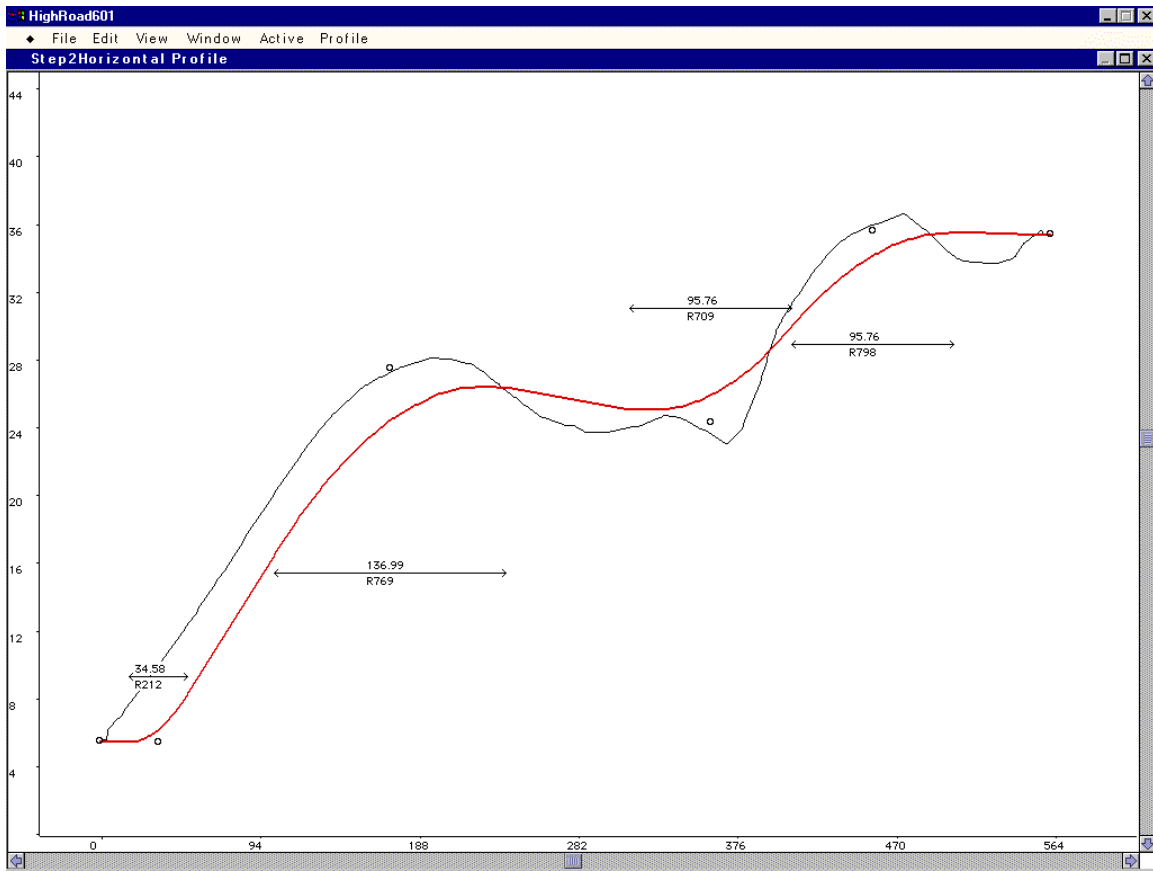
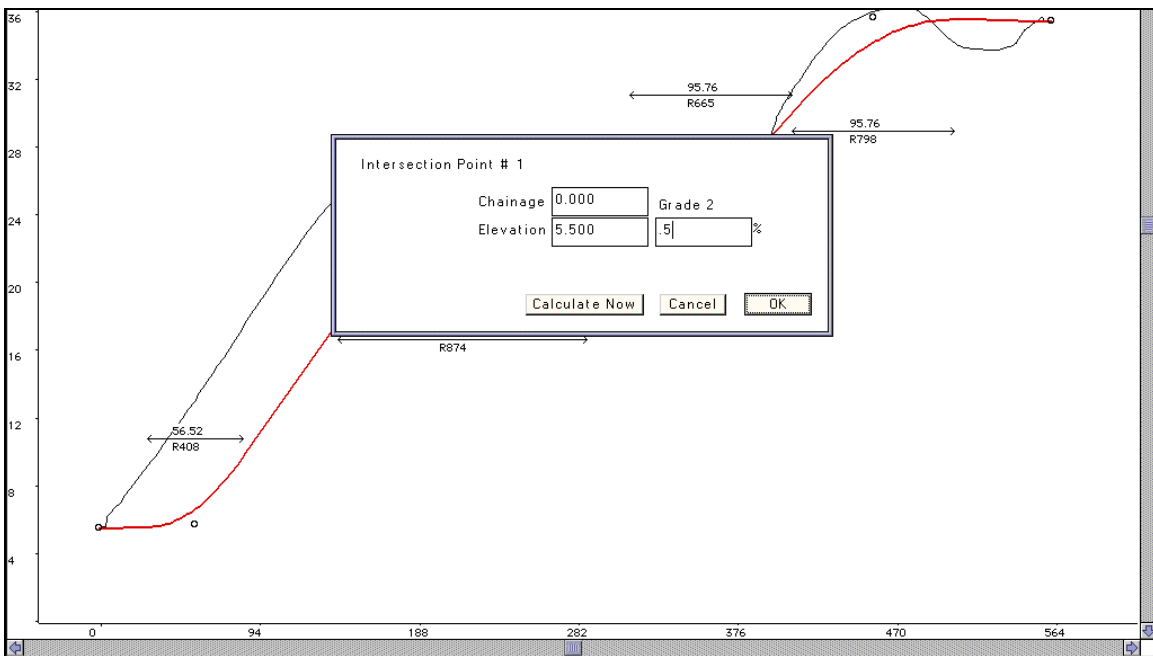
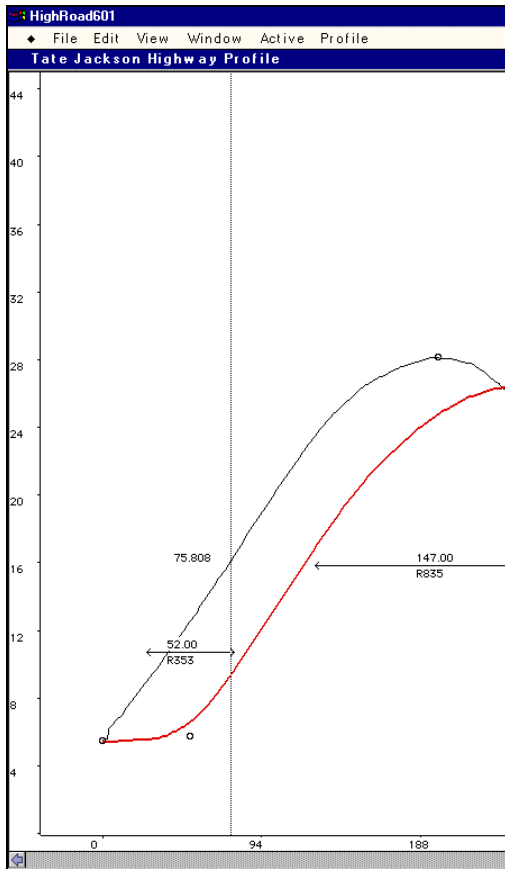
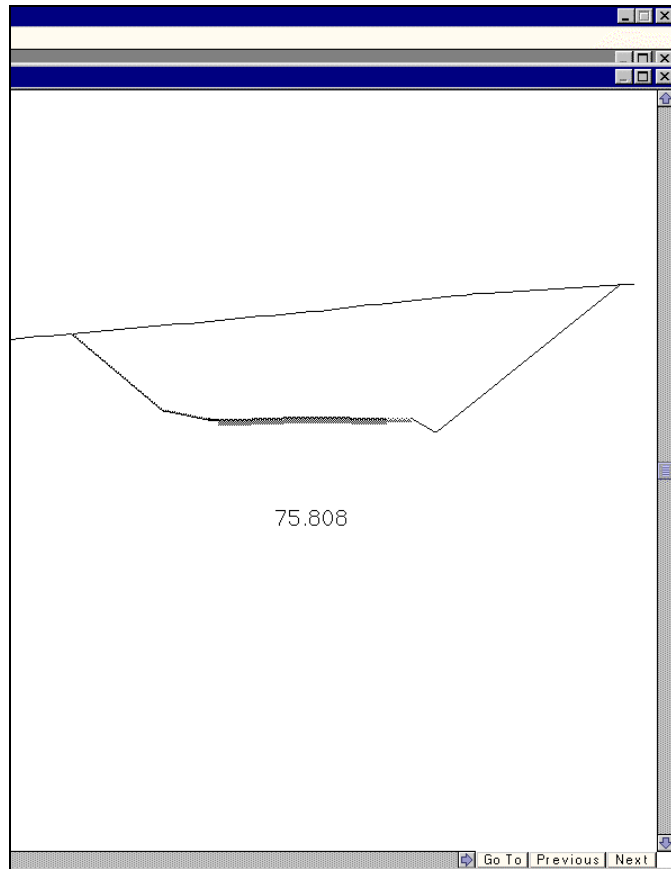

Figure 18: Adding 6 Vertical Intersection Points
Figure 19: Setting the Exact Height and Location of the First Vertical Intersection Point
Figure 24a: Profile View Near Chainage 75
Figure 24b: Cross Section View Near Chainage 75
Then, select Profile/New IP to add six new vertical intersection points as shown in Figure 18. You can double click on any vertical intersection point to see the chainage (e.g. the horizontal position), the grade, or the elevation as shown in Figure 19. Don't worry if your numbers differ from those shown in Figure 18; you will change the alignment in just a few minutes.
- If an *unfamiliar screen pops up* similar to that shown in Figure 24b (a few pages ahead), then just delete that screen by pressing the "X" in the upper right corner. This will return you to Figure 18.
Then, move the third intersection point from the left as high as you can. The grade is of course at 10%. Now, move the second intersection point from the left higher than it originally was. Now move the third intersection point as high as you can. Why are you now able to move that point higher whereas previously you could not? Go ahead and save your work (presumably as *Activity4.rdd*) before continuing. It is o.k. if your profile differs somewhat from Figure 18.
Select Window/Profile, View/Fit to Window, and click the left mouse button near chainage 75 as shown in Figure 24a. Release the left mouse button and a screen comparable to Figure 24b should appear. What you are seeing is a two dimensional view of how the road appears before it is built: for example, in Figure 24b, one will have to excavate quite a bit of dirt in order to lay the road! You may view use the “Go To,” “Next,” and “Previous” buttons shown in Figure 24b to see the layout of the road relative to the terrain for chainages other than 75.808.